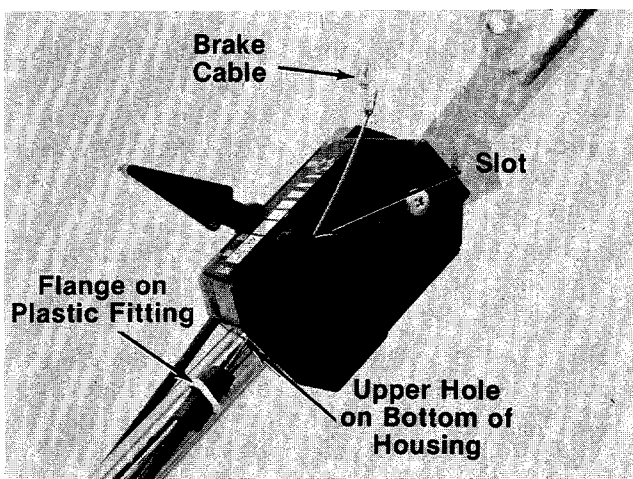

FIGURE 6.
9. Route the brake cable under the lower handle. Place the end of the brake cable into the upper hole on the bottom of the control housing, and through the slot in the side of the housing as shown in figure 6. The angle of the flange on the plastic fitting must be positioned downward as shown. Be careful not to bend or kink the cable.